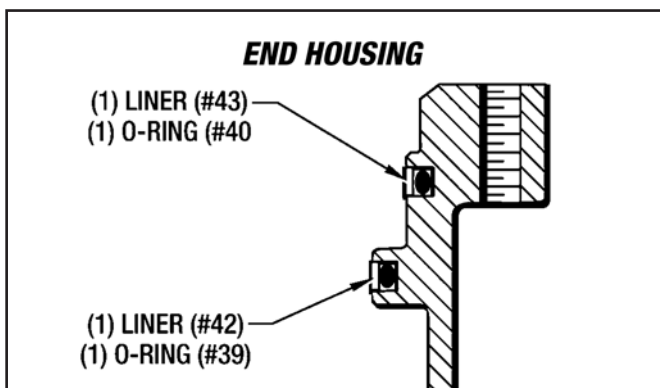

Figure 9.5 - Installing Piston Seals in End Housing (#9)
1. Apply a little White Grease to both O-Rings (#40) & (#39) and both Liners (#43) & (#42). Install them into the End Housing (#9) piston seal grooves as shown in Figure 9.5.